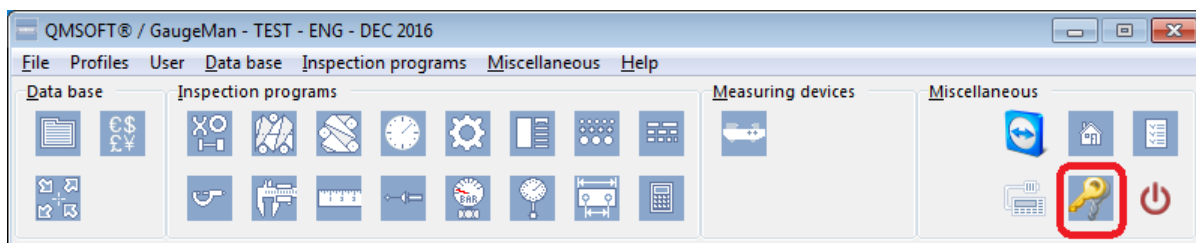

Fig. 2.1.1: QMSOFT® startup window (GaugeMan) - Opening “Registration of QMSOFT® modules”.
- 1) Open the QMSOFT® registration centre as shown in the figure [Fig. 2.1.1]